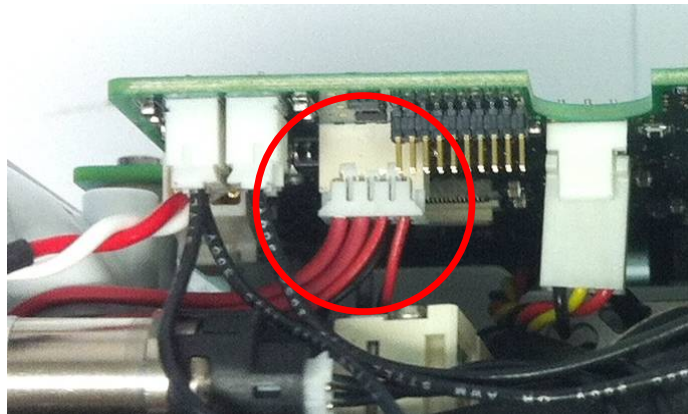

Figure 16: Orientation of product manifold cable
5. Reconnect the manifold cable to the motherboard, making sure to orient the connector with the thicker cables on the left (Figure 16). Assure proper connection of the pins.